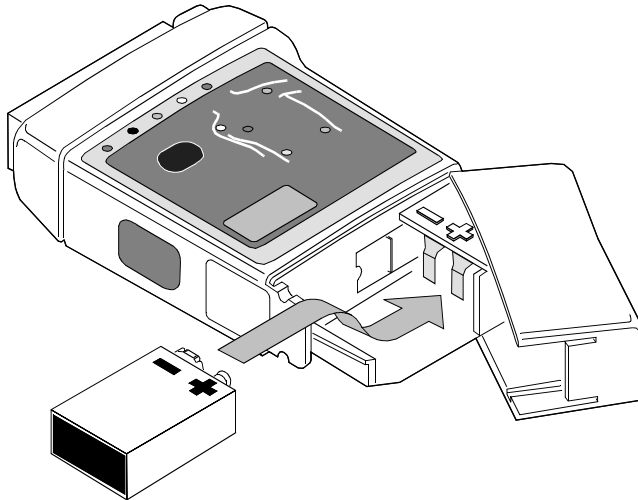

Figure 6-23 Align the Terminals Correctly Before Installing Battery
- Step 1.** Align the terminals of the battery correctly with the battery contacts. See Figure 6-23.